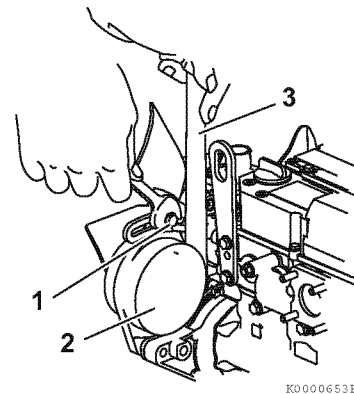

Figure 5-3
2. If necessary, adjust the V-belt tension. Loosen the adjusting bolt (**Figure 5-3, (1)**) and the other related bolts and/or nuts, then move the alternator (**Figure 5-3, (2)**) with a pry bar (**Figure 5-3, (3)**) to tighten the V-belt to the desired tension. Then tighten the adjusting bolts and/or nuts.